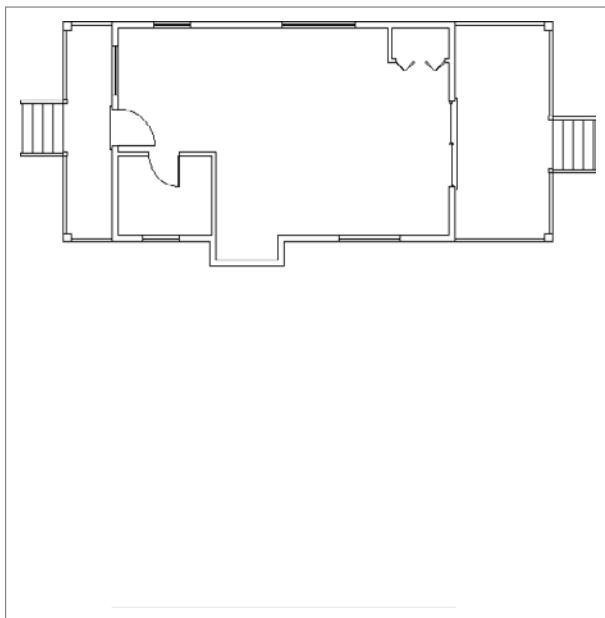

FIGURE 10.3 The floor plan with space below it for the south elevation
6. Deselect the offset line. When done, your drawing should look like Figure 10.3.